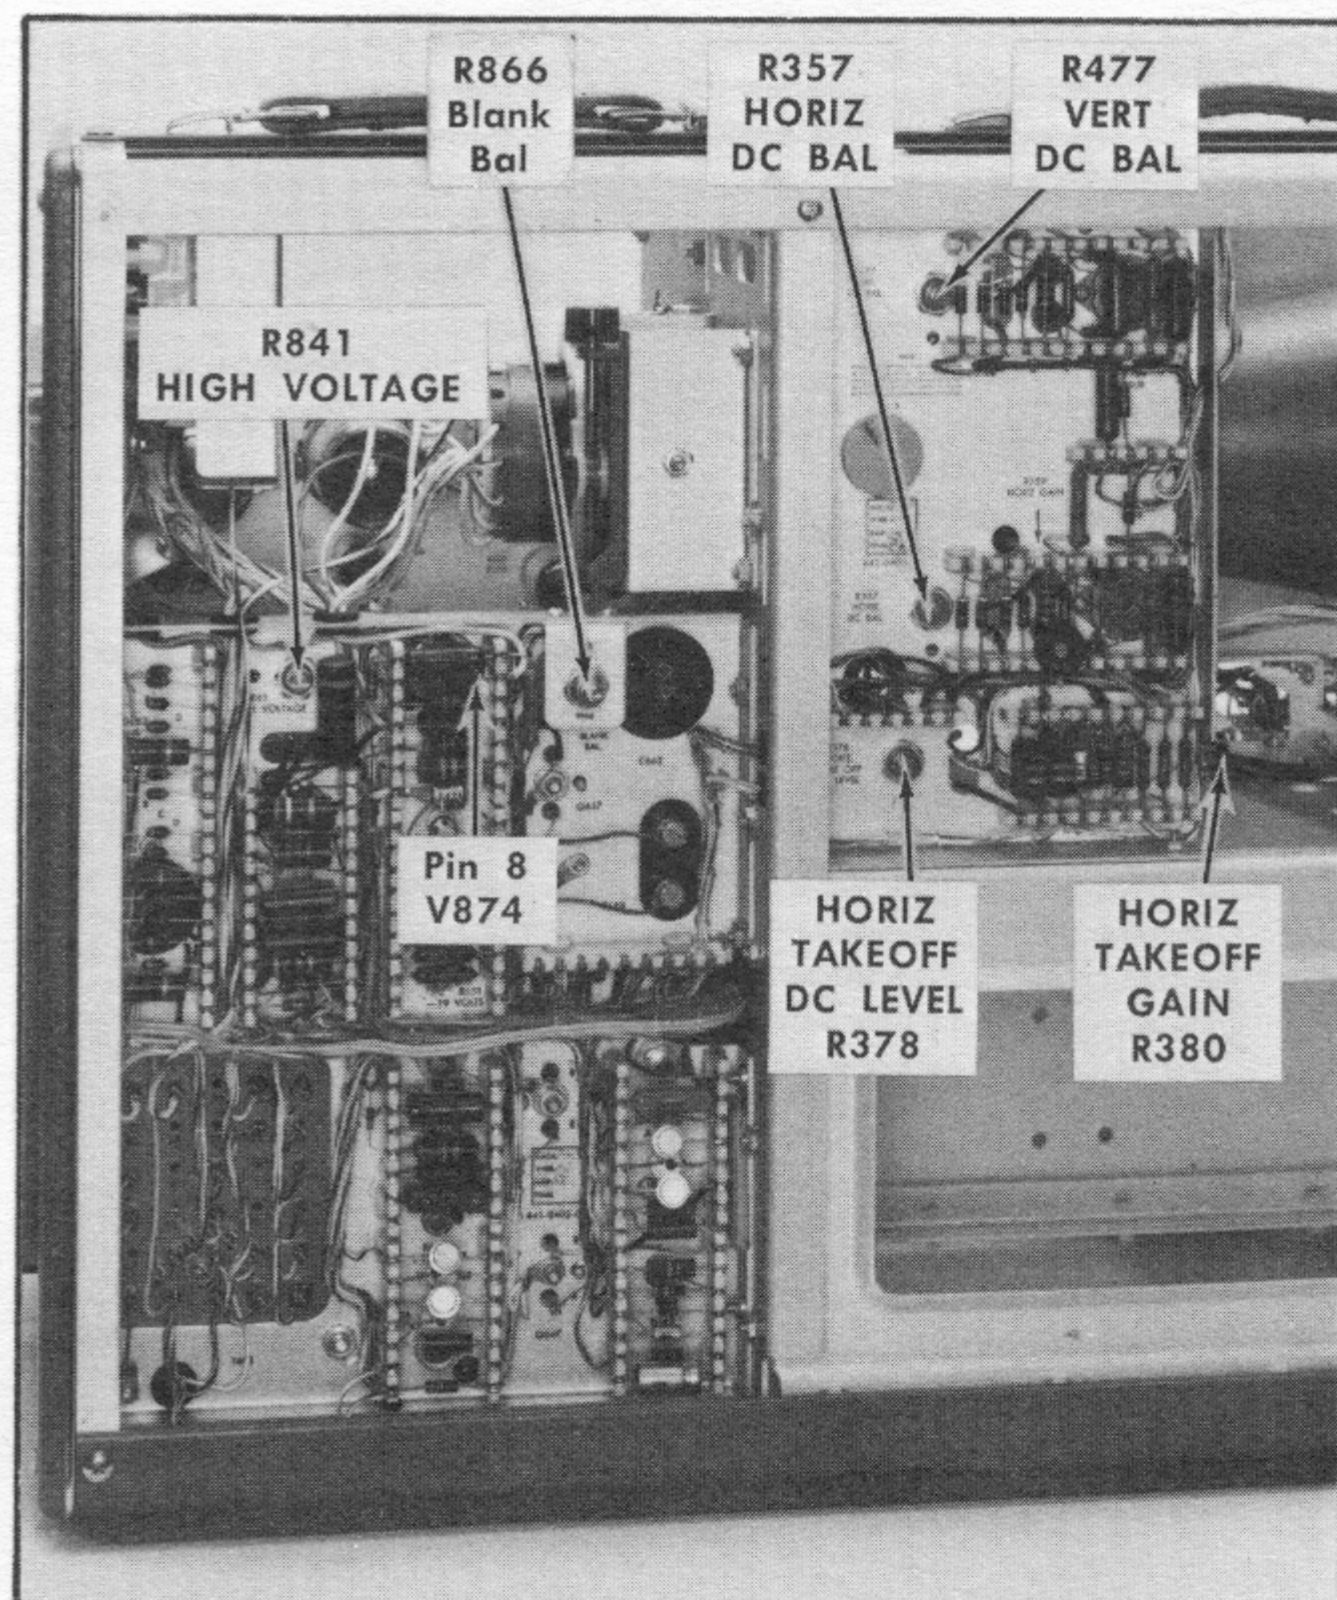

Fig. 6-11. Location of some adjustments on left side of oscilloscope.
- Connect the bench voltmeter (set to a range that permits measuring at least 40 V) between the center terminal of R866, BLANK BAL control, and pin 6 of V874 to check the differential voltage between the CRT blanking deflection plates. (V874 is located between the two ceramic strips adjacent to the control, see Fig. 6-11.)
- Adjust R866, BLANK BAL control (Fig. 6-11), for a meter reading of zero volts.